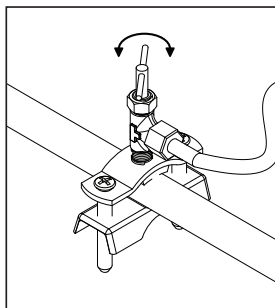

FIGURE 4
- Using the saddle valve, pierce the copper pipe of the water line (*figure 4*).